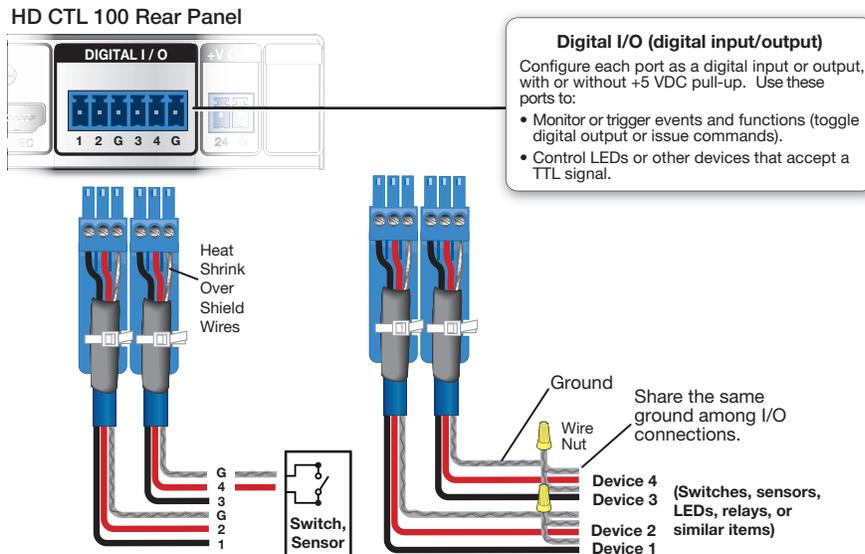

Figure 3. Wiring the Digital I/O Connectors
- a. Connect a digital input or output device (such as a switch, relay device, or sensor) to pin 1, 2, 3, or 4 and to a G (ground) pin on the Digital I/O connector (see figure 3 on the next page).